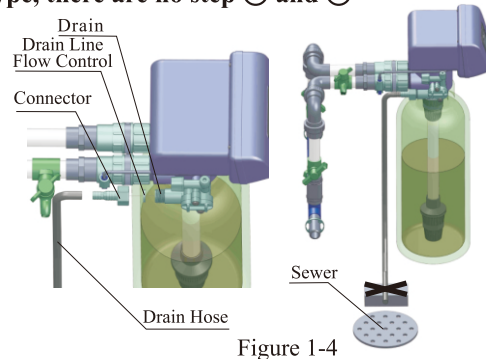

Figure 1-4
- If the valve belongs to time clock type, there are no step ② and ③
⑤ Install drain pipeline
- a. As the Figure 1-4 shows, slide the drain hose connector into drain outlet.
- d. Locate the drain hose well as the Figure1-4 shows.
- Be sure not connect drain with sewer directly, and leave a certain space between them, avoid wastewater being absorbing to the water treatment equipment, such as showed in the Figure1-4.
⑥ Connect brine tube